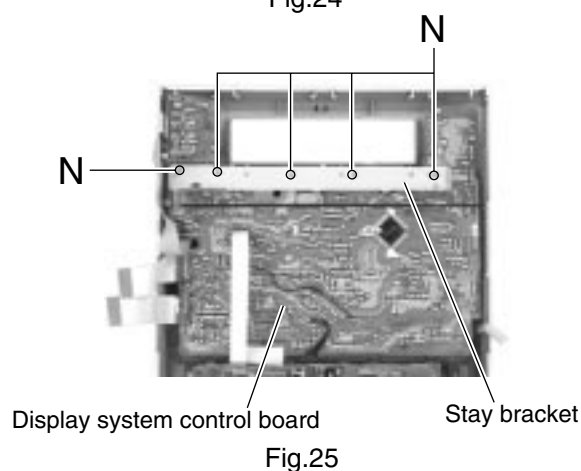

Fig.25
■ Removing the display system control board (See Fig.25 to 27)